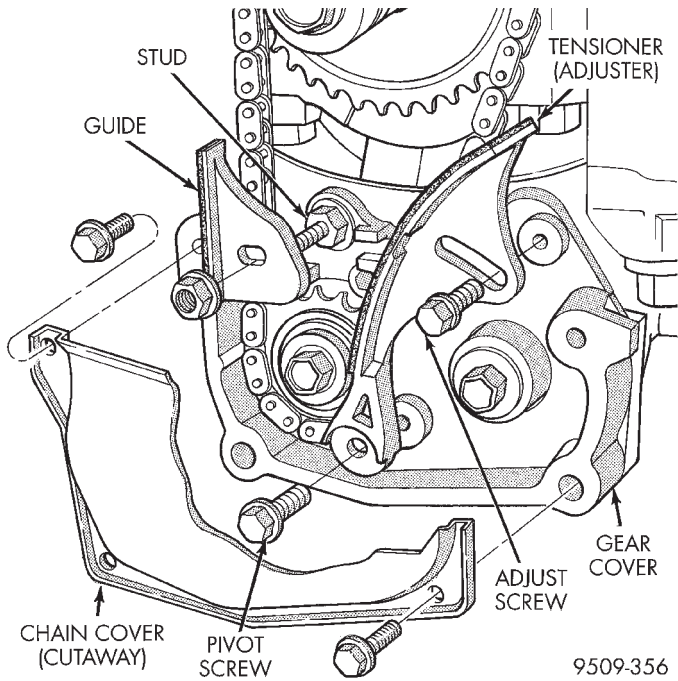

Fig. 40 Chain Cover, Guide and Tensioner
- (1) Drain engine oil and remove oil pan. Refer to procedures in this section.
- (2) Remove chain cover, guide and tensioner (Fig. 40). Also see Carrier Assembly Removal for service procedures requiring only temporary relocation of assembly.
- (3) Remove gear cover retaining stud (double ended to also retain chain guide). Remove cover and balance shaft gears (Fig. 40).